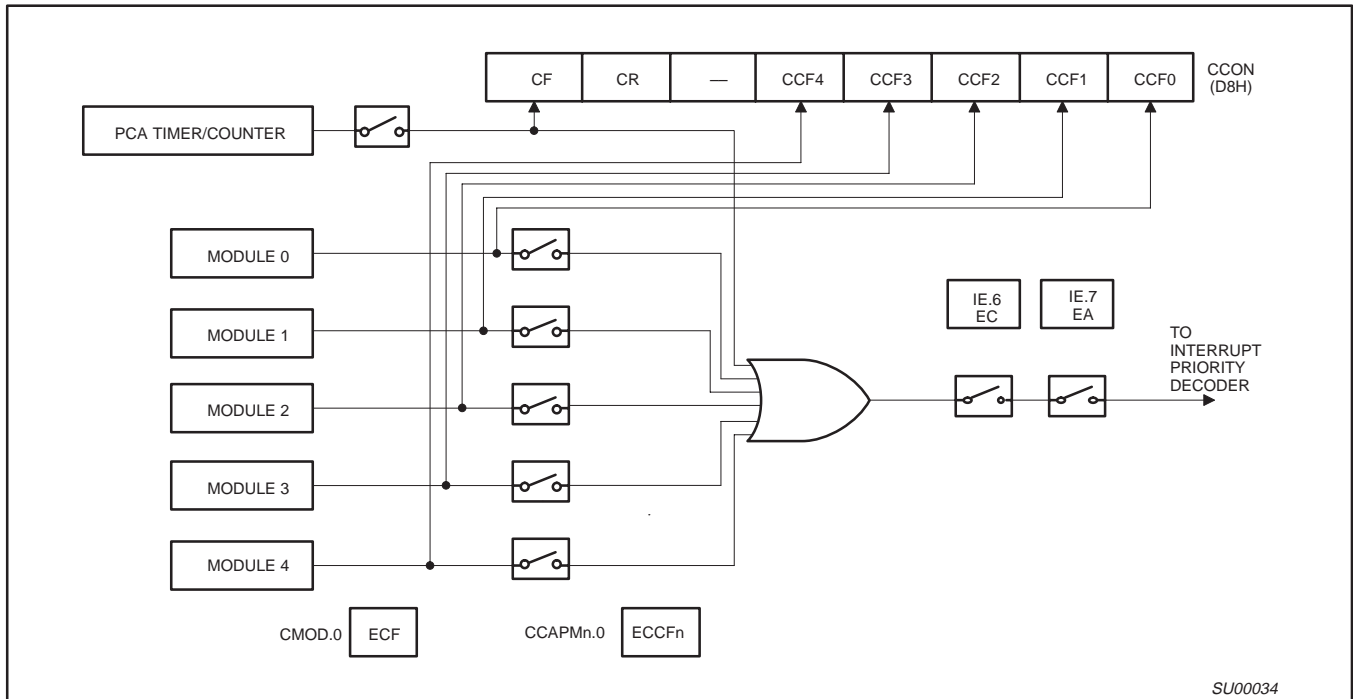
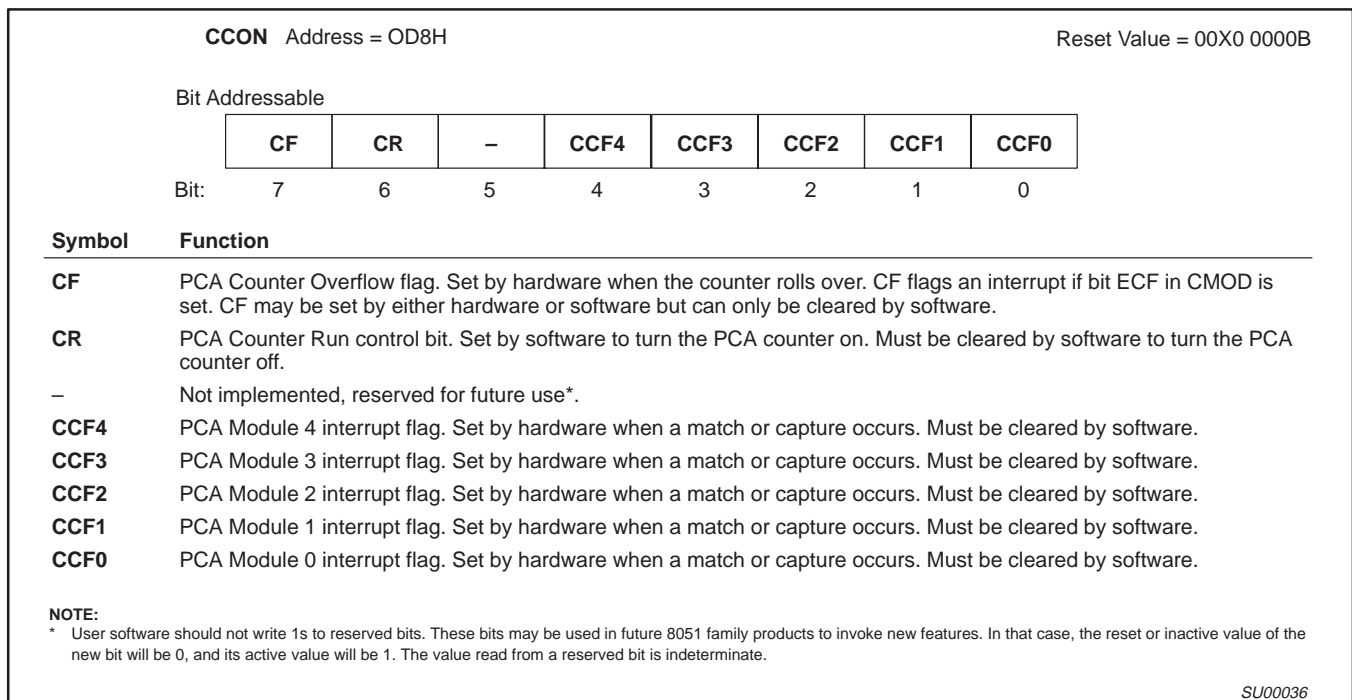

Figure 4. PCA Interrupt System
Figure 6. CCON: PCA Counter Control Register
The CCON SFR contains the run control bit for the PCA and the flags for the PCA timer (CF) and each module (refer to Figure 6). To run the PCA the CR bit (CCON.6) must be set by software. The PCA is shut off by clearing this bit. The CF bit (CCON.7) is set when the PCA counter overflows and an interrupt will be generated if the ECF bit in the CMOD register is set. The CF bit can only be cleared by software. Bits 0 through 4 of the CCON register are the flags for the modules (bit 0 for module 0, bit 1 for module 1, etc.) and are set by hardware when either a match or a capture occurs. These flags also can only be cleared by software. The PCA interrupt system shown in Figure 4.